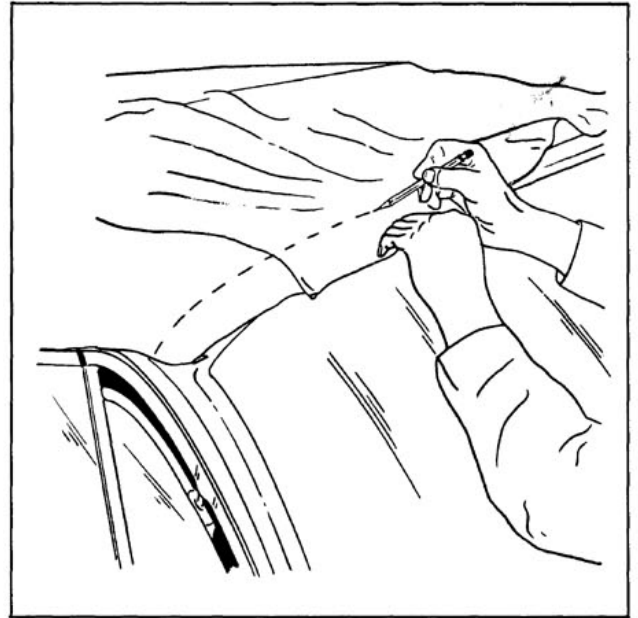

Fig. 16-146 Marking Top Material at Front Roof Rail
45. At front roof rail, pull top trim material forward to desired tension. While maintaining tension on top trim, place a pencil mark on outer surface of trim material along forward edge of front roof rail. (Fig. 16-146)